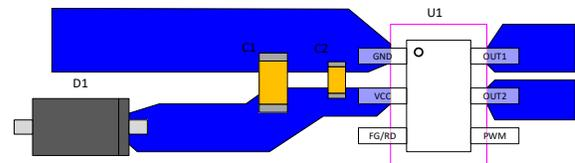

Figure 13: Recommended PCB Layout
Efficient PCB layout is critical for stable operation. For the best results, refer to Figure 13 and follow the guidelines below:
1. To improve EMI performance, place a 0402 capacitor as close as possible to the VCC and GND pins (C2 in Figure 13).
2. Place the input capacitor close to the VCC and GND pins (C1 in Figure 13).